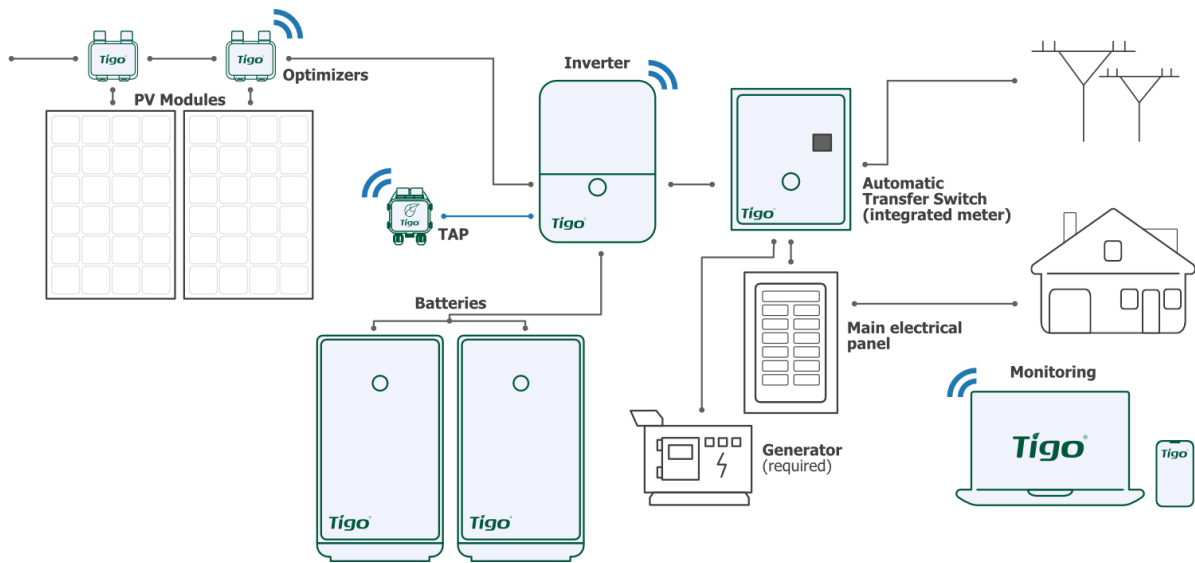

Figure 1: Off-grid application with 2x 10kWh Tigo EI Batteries
- 2 x 10kWh EI Batteries (see Figure 1 below), or